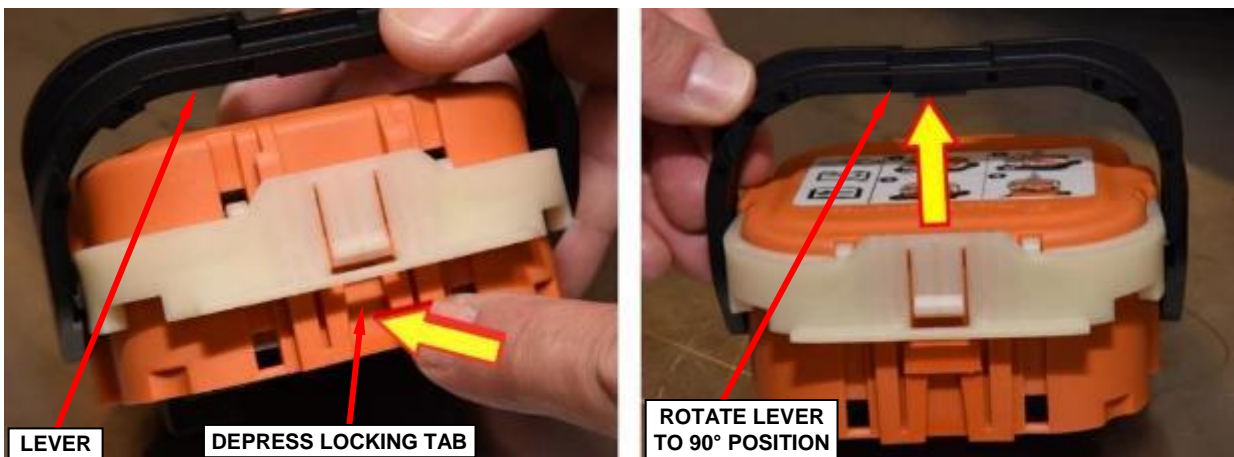

Figure 11 – High-Voltage Manual Service Disconnect Second Stage Latch Release (High-Voltage Manual Service Disconnect Removed from Vehicle for Visual Clarity)
- Depress the locking tab and continue to rotate the lever to the end of travel, 90° position (Figure 11).